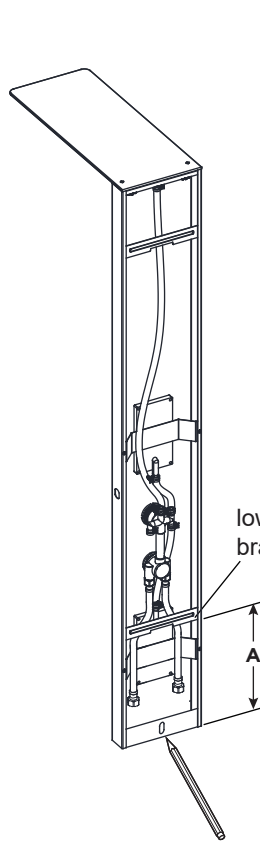

Fig 2.1
- 2-1** Position the shower panel on the wall according to figure A on page 5. Draw line 1 on the wall along the bottom of shower panel. (Fig 2.1)